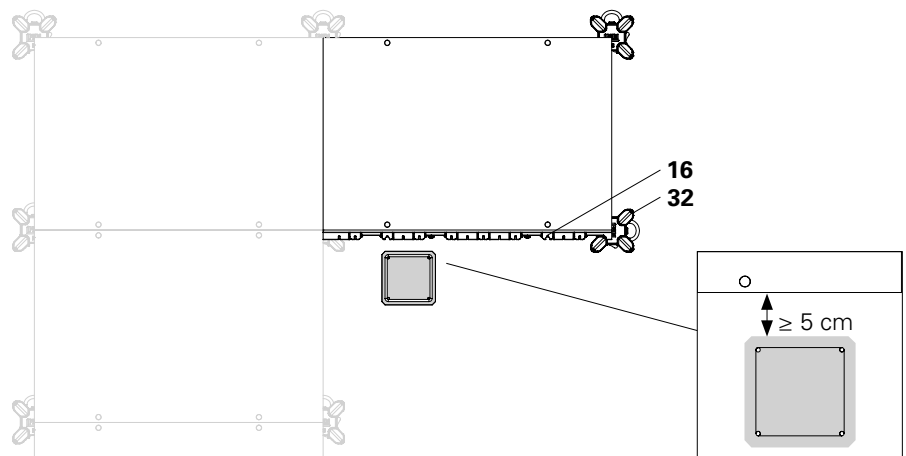

Fig. D3.06a
1. Form the slab with DP panels (10) as far as possible to the column, see section D2 Shuttering.
2. Depending on the remaining dimension, select a standard panel or a panel (10) with a small width. Distance to the column  $\geq 5$  cm. (Fig. D3.06a)
5. Place the slab prop with DFH prophead (32) at the end of the panel in an inclined position from the inside and align outwards. (Fig. D3.06a)